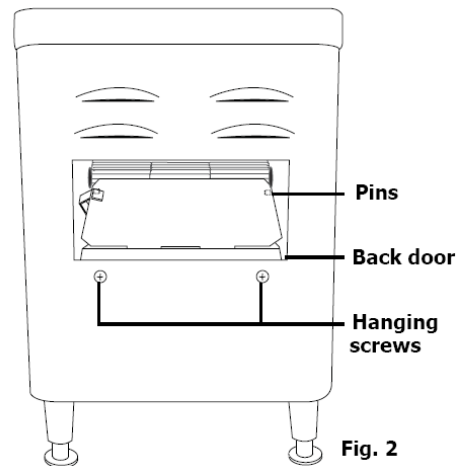

Fig. 2
2. Fix it inside the appliance by resting the curved lip of the door on the two pins at the end of the belt **[Fig. 2]**.